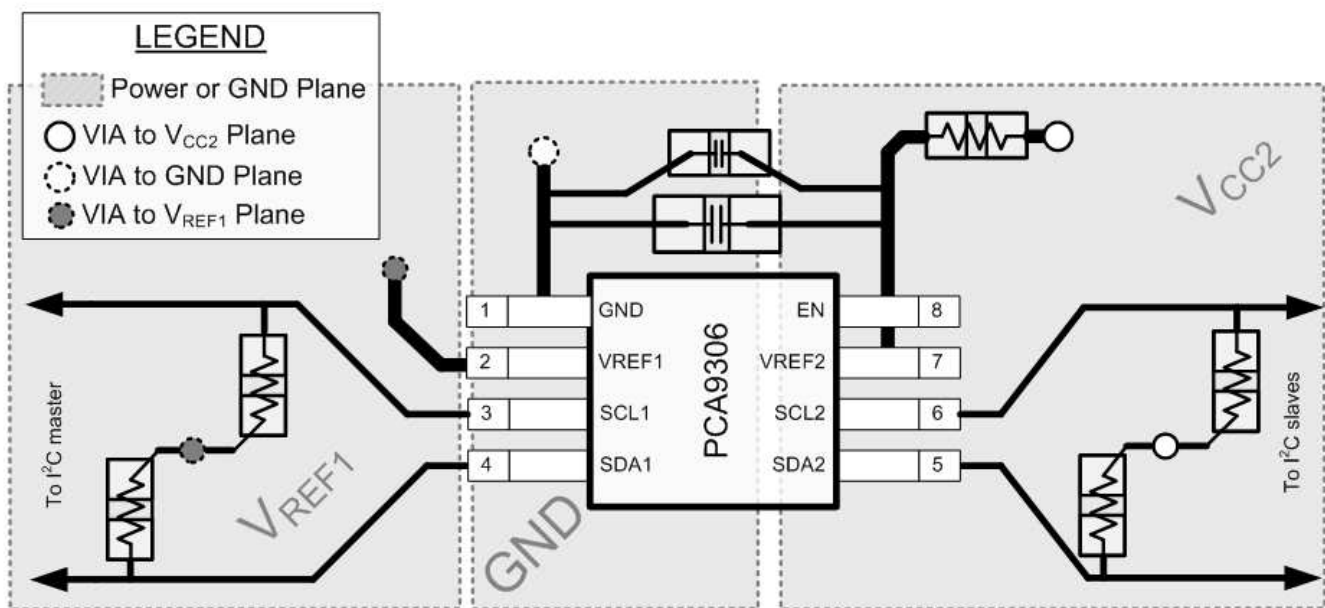

Figure 11. PCA9306 Layout Example
In all PCB layouts, it is a best practice to avoid right angles in signal traces, to fan out signal traces away from each other on leaving the vicinity of an integrated circuit (IC), and to use thicker trace widths to carry higher amounts of current that commonly pass through power and ground traces. The 100-pF filter capacitor should be placed as close to V_{REF2} as possible. A larger decoupling capacitor can also be used, but a longer time constant of two capacitors and the 200-k Ω resistor results in longer turnon and turnoff times for the PCA9306 device. These best practices are shown in Figure 11.
For the layout example provided in Figure 11, it would be possible to fabricate a PCB with only two layers by using the top layer for signal routing and the bottom layer as a split plane for power (V_{CC}) and ground (GND). However, a four-layer board is preferable for boards with higher-density signal routing. On a four-layer PCB, it is common to route signals on the top and bottom layer, dedicate one internal layer to a ground plane, and dedicate the other internal layer to a power plane. In a board layout using planes or split planes for power and ground, vias are placed directly next to the surface-mount component pad, which must attach to V_{CC} or GND, and the via is connected electrically to the internal layer or the other side of the board. Vias are also used when a signal trace must be routed to the opposite side of the board, but this technique is not demonstrated in Figure 11.